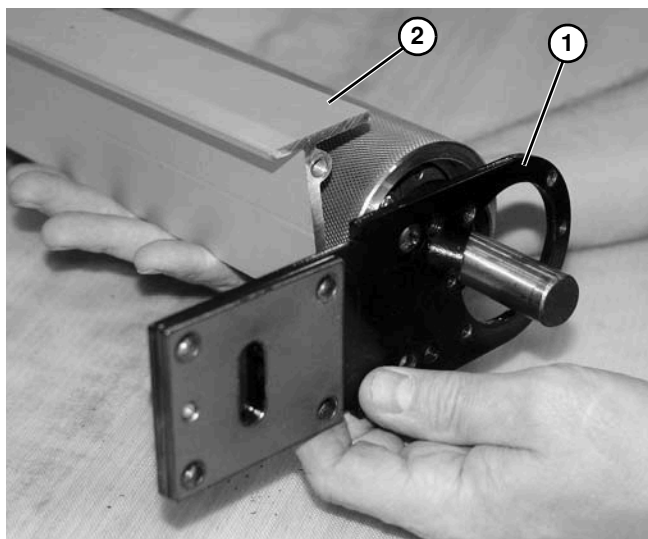

Figure 126
14. Remove backing plate (**Figure 126, item 1**) from articulation bar (**Figure 126, item 2**).